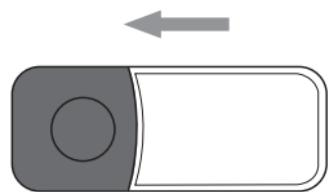

Fig. 2
- ◆ Write on one of the nameplates ⑬. If marking the nameplate ⑬ by hand, we recommend using a waterproof pen.
- ◆ Pull the nameplate cover ⑨ upwards away from the transmitter and place your nameplate ⑧ into the recess in the transmitter.
- ◆ Place the nameplate ⑨ back onto the transmitter.
- ◆ Place the transmitter on the wall bracket ⑩ so that the retaining tabs on the wall bracket ⑩ protrude into the two openings on the back of the transmitter. Then slide the transmitter towards the ringer button ⑦ so that the retaining tabs glide into the openings and the transmitter sits firmly on the wall bracket ⑩ (see fig. 2).